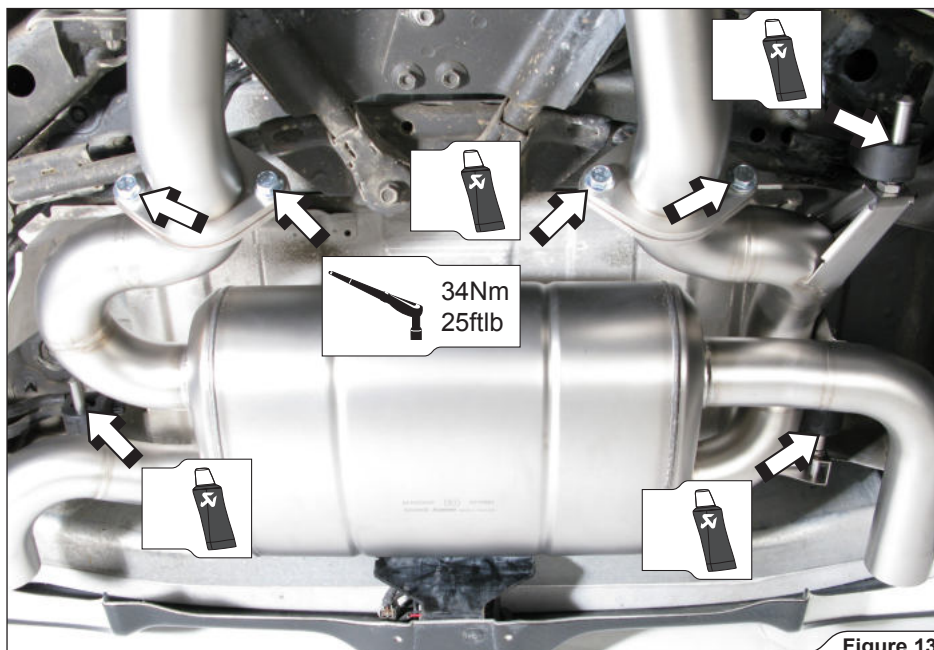

Figure 13
7. **For Evolution only:** hang the muffler on stock rubber brackets, use Akrapovič exhaust gaskets, bolts and nuts to join middle pipes and muffler inlet pipes (**Figure 13**).